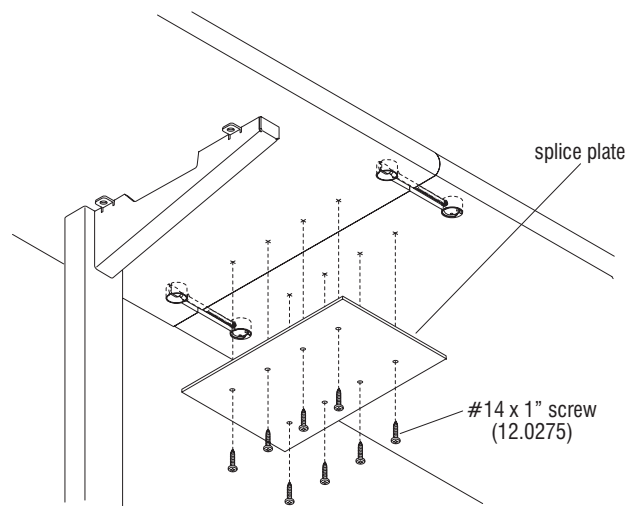

Figure 4
9. Install a 6" x 10" splice plate over the joint, at the underside of the table top for reinforcement. Use eight #14 x 1" screws in the pre-drilled holes torqued to 100 in/lbs to secure (Figure 4). Tops over 24" wide will have two splice plates. Continue securing all joints with adhesive, KV fasteners and splice plates along the run of table tops.